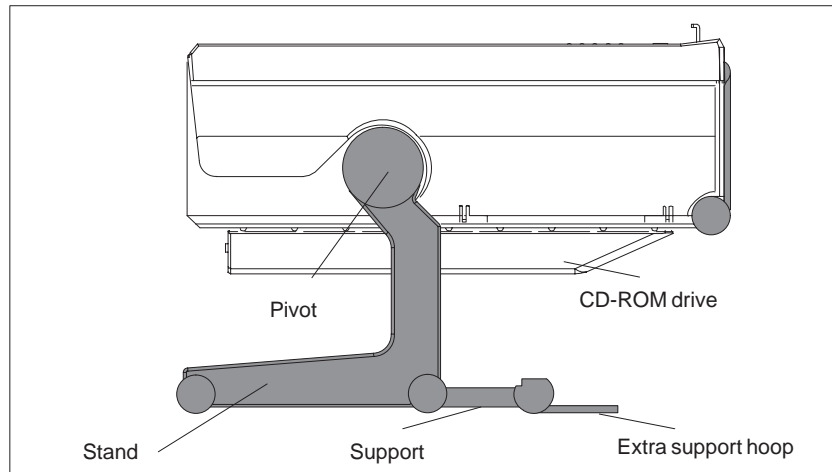

Figure 2-4 Horizontal Operating Position Without Keyboard
2. Pull the support (Figure 2-4) out of the rear of the stand and, if necessary, pull out the extra support hoop.
If the keyboard is detached, there is a risk of the unit tipping over. Before removing the keyboard, make sure that you pull out the support from the device stand (Figure 2-4) and pull out the additional hoop.